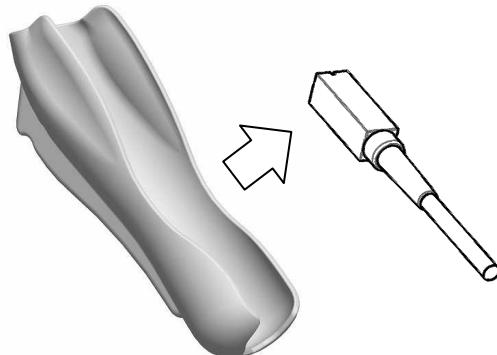

Fig.10 How to release magnetic sensor from the Magnetic sensor attachment
- 2) Detach the magnetic sensor from the Magnetic sensor attachment as shown in Fig.10.